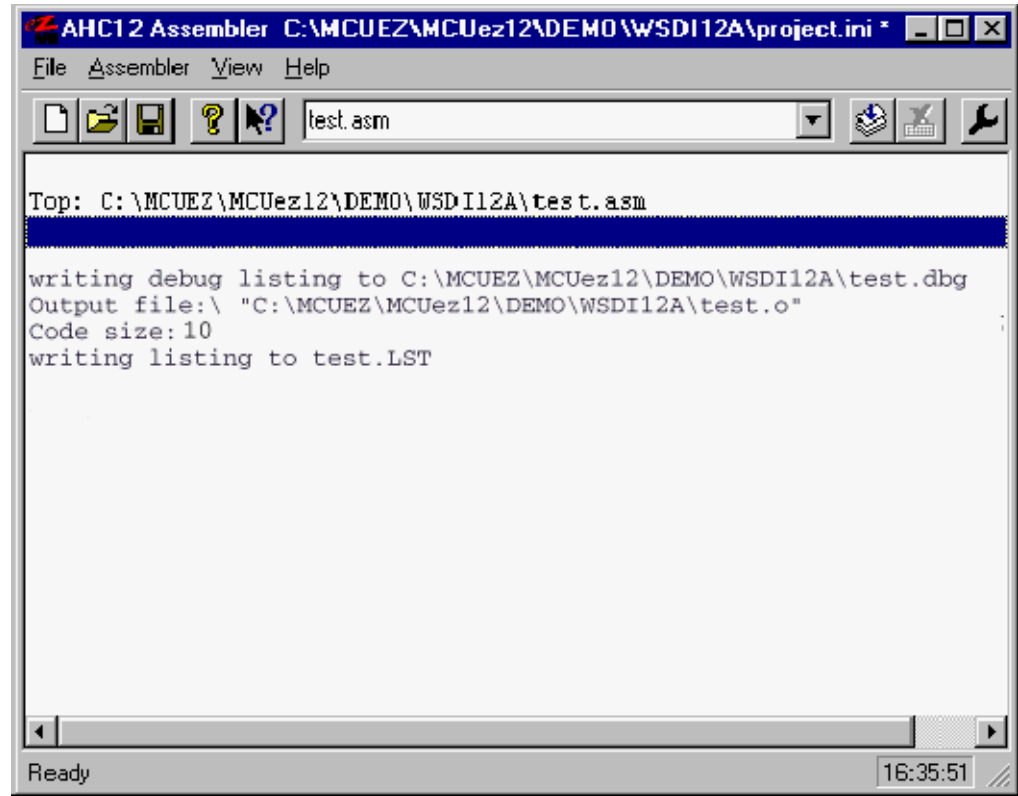

Figure 1-8. Assembling a File
4. The file is assembled, as shown in Figure 1-8, when the **Assemble** button is clicked.